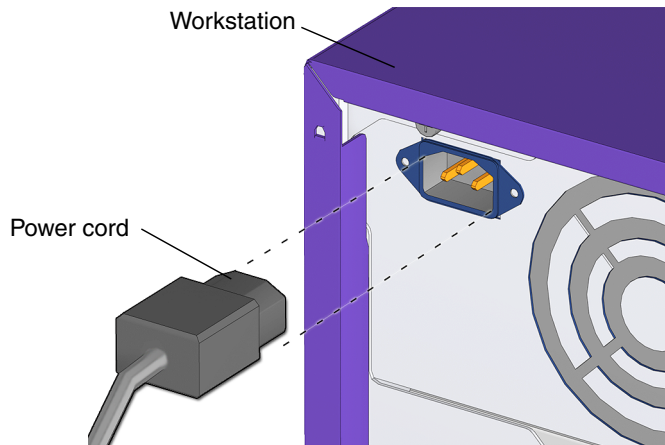

FIGURE 10-9 Disconnecting the Power Cord
6. Remove all power from the workstation (FIGURE 10-9).